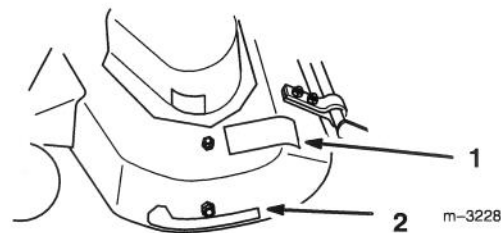

Figure 9
2. Remove backing paper and apply decal to left top of mower as shown (Fig. 9). Smooth from center to edges to remove air bubbles.
3. Install Recycler® decal to left side of mower as shown (Fig. 9).